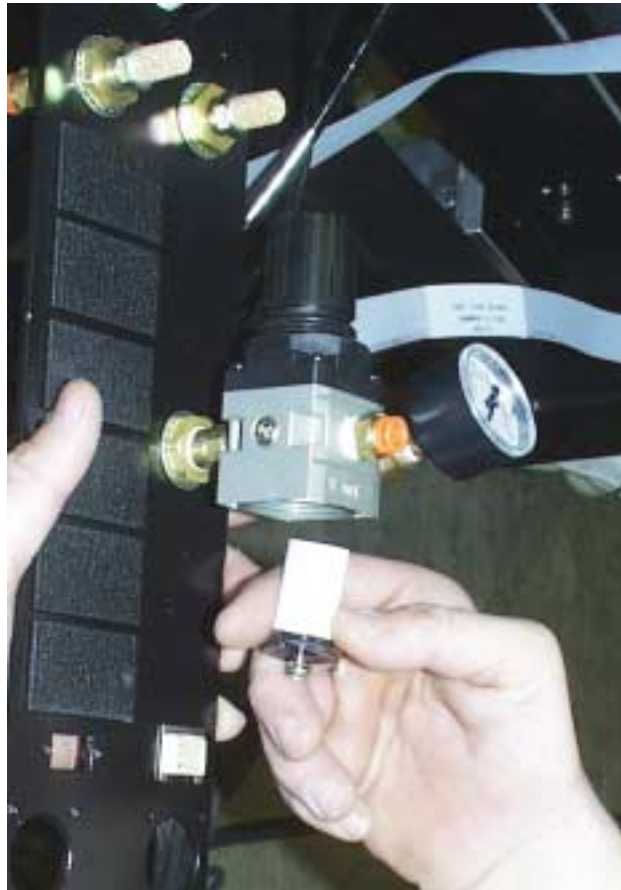

Figure 3-10
4. Remove the filter element and inspect. See Figure 3-10.